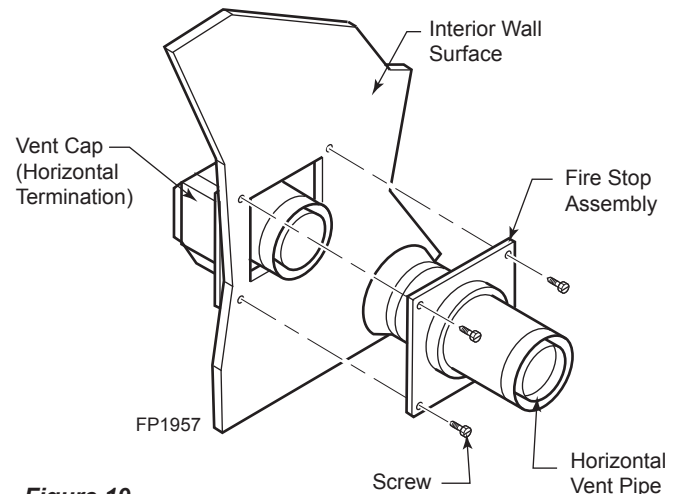

**Figure 19 -
6. Slide the wall thimble over the vent pipe before connecting the horizontal run to the vent cap. *Figure 19*
8. Slide the wall thimble against the interior wall surface and attach with screws. *Figure 19*